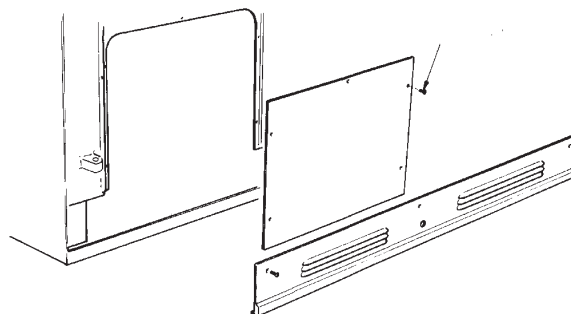

Fig. 8
- SEE FIG. 8
2. Remove (5) inner panel securing screws and remove panel.
- 3 Remove the (3) plinth securing screws and remove plinth.